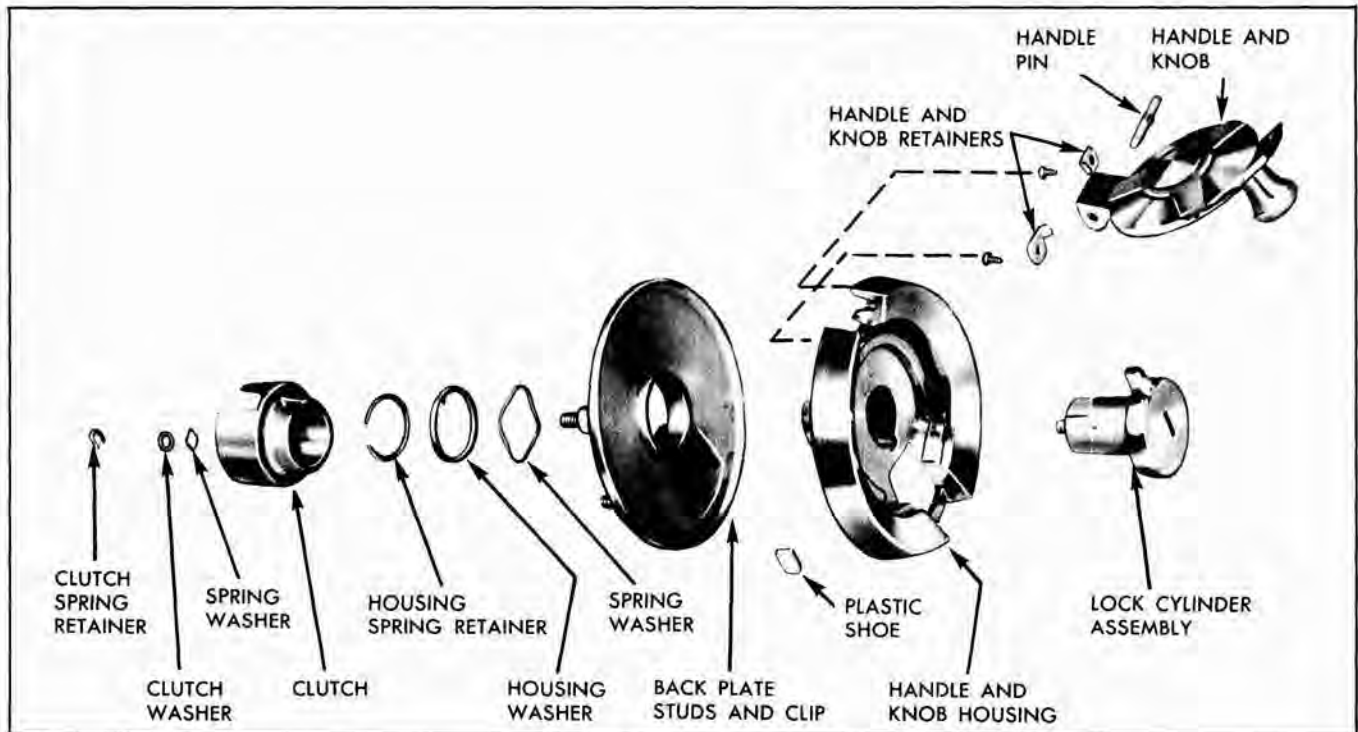

Fig. 5-16 Tail Gate Outside Handle Assembly
2. Using a hooked tool or other suitable tool, remove clutch spring retainer; then remove clutch washer and spring washer, and remove clutch and lock cylinder assembly from unit (Fig. 5-16).
3. Using snap ring pliers or other suitable tool remove housing spring retainer; then remove housing washer and spring washer, and remove back plate from handle and knob housing (Fig. 5-16).
NOTE: Plastic shoes can be removed from handle and knob housing by carefully prying shoes from housing (Fig. 5-16).
4. If replacing handle and knob assembly remove screws securing handle and knob retainers; then disengage handle and knob including handle pin from housing (Fig. 5-16).
2. Using an awl or other suitable tool, remove clutch spring retainer; then remove clutch washer and spring washer and remove clutch and lock cylinder assembly from unit (Fig. 5-16).